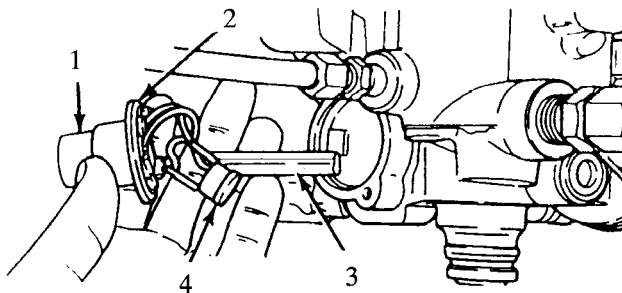

Figure 76 Heater Assembly
3. Heater Assembly (Figure 76).